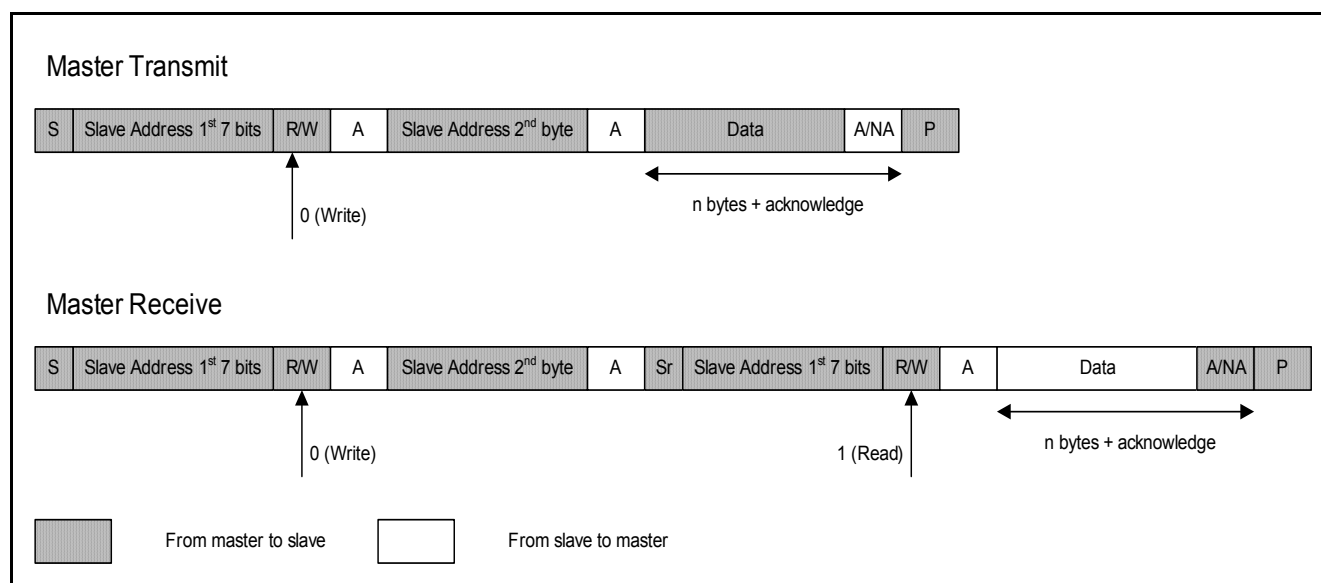

Figure 4 10-Bit Addressing Mode Data Transfer Format
The IIC protocol also provides a 10-bit addressing mode to support more slave addresses. A complete data transfer format in 10-bit addressing mode is shown in Figure 4. After a START condition, the first byte of the slave address is sent. The first seven bits of the first byte must take the pattern 11110XX_B, of which the last two bits (XX) are the two Most-Significant Bits (MSBs) of the 10-bit address. The 8th bit is a data direction bit (R/W), which in this case must be selected as 0 (Write) since the master device will be sending the second byte of the slave address. The 8th bit is a data direction bit (R/W), which in this case must be selected as 0 (Write) since the master device will be sending the second byte of the slave address.